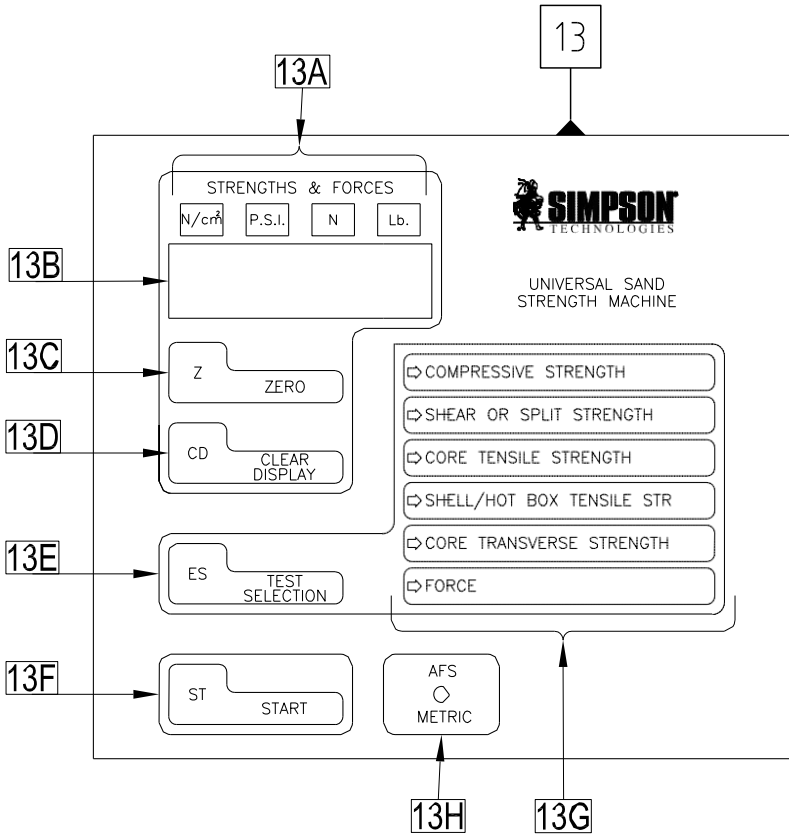

Figure 6: Electronic Panel Detail View - Electronic Universal Sand Strength Machine (Model 42104)
10. Press the “ES - TEST SELECTION” button on the strength machine (Figure 6, Item 13E) until the arrow pointing to “SHELL/HOT BOX TENSILE STR” illuminates.
11. Zero the digital display on the strength machine by pressing the “z-zero” Button (Figure 6, Item 13C). The digital display will read zero.
17. Start the cure timer by pressing the “START TIME” button located on the Hot Shell Tensile Accessory Control Cabinet (Figure 2, Item 3). After the pre-set cure time is complete, the Electronic Universal Sand Strength Machine will automatically start applying load to the sand tensile specimen. The strength machine will continue to increase the tensile load until sand specimen failure. The moveable clamp arm will return to home position and the tensile strength value will be displayed in the digital display (Figure 6, Item 13B). The units of measure will be displayed in PSI or N/cm² as programmed by the mode of operation switch (AFS or Metric).
19. After raising the upper heating block and recording the strength value from the digital display, the “CD-CLEAR DISPLAY” button (Figure 6, Item 13D) must be pressed followed by pressing the “Z-ZERO” button (Figure 6, Item 13C). This button sequence is required to reset the strength machine for the next test.